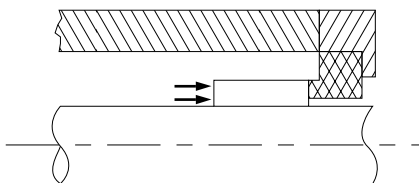

FIGURE 43. Unbalanced Seal
- The amount of pressure that an unbalanced seal (Figure 43) can accommodate is dependent upon the following: